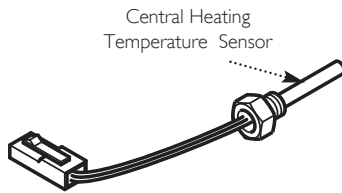

Fig. 84
14.8 Central Heating Temperature Sensor (NTC) (Fig. 84)